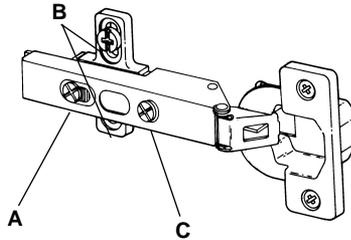

Figure 16. Adjusting Wooden Doors
*To adjust wooden doors (see Figure 16):*